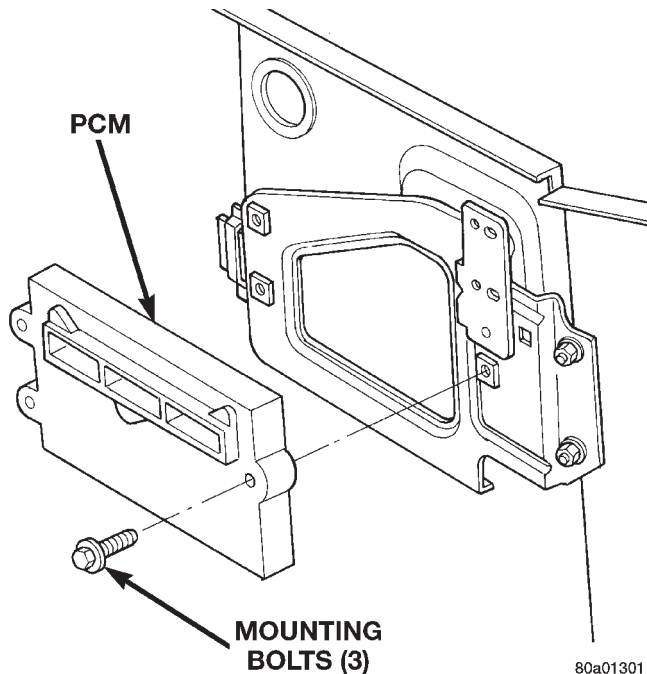

Fig. 79 Powertrain Control Module (PCM) Mounting INSTALLATION
- (4) Carefully unplug the three 32-way connectors at PCM.
- (5) Remove the three PCM mounting bolts (Fig. 79).
- (6) Remove PCM.